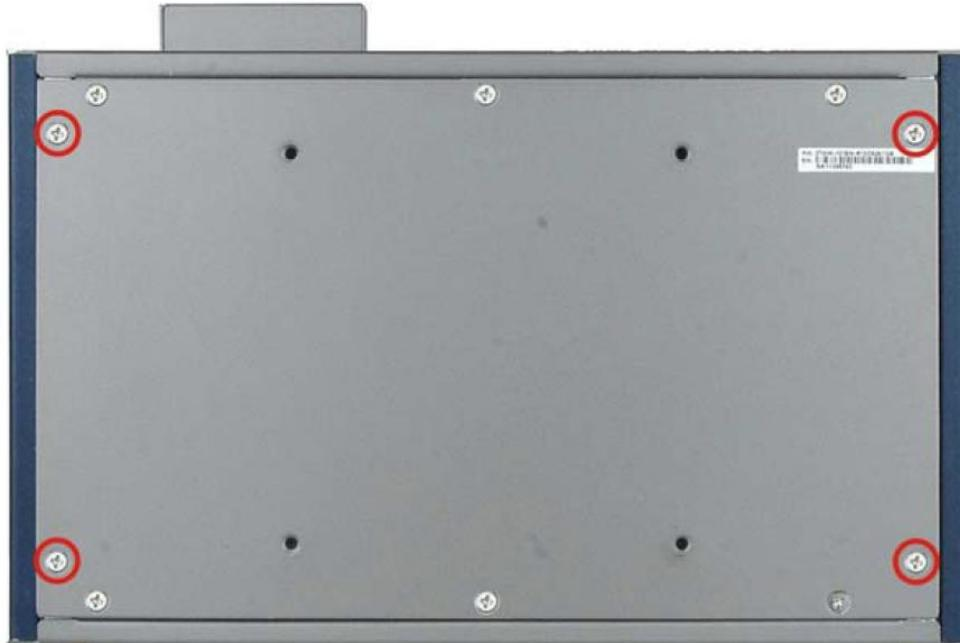

Figure 2 – Mounting Bracket Screw Hole Locations
Step 2: Align the two retention screw holes in each bracket with the corresponding retention screw holes on the sides of the MBB200C bottom surface (marked in red in Figure 2).